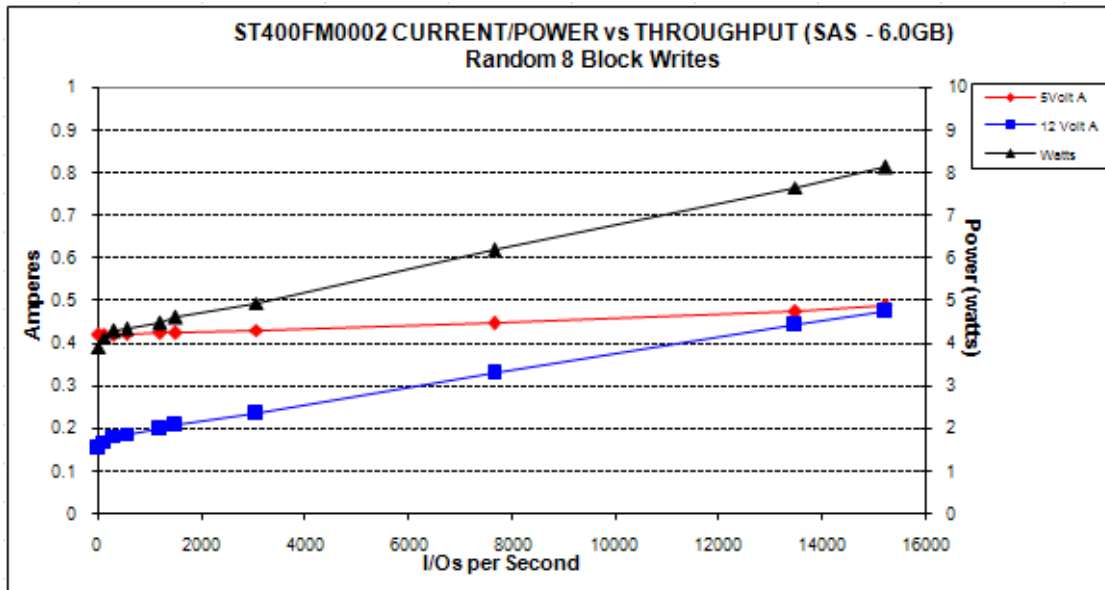
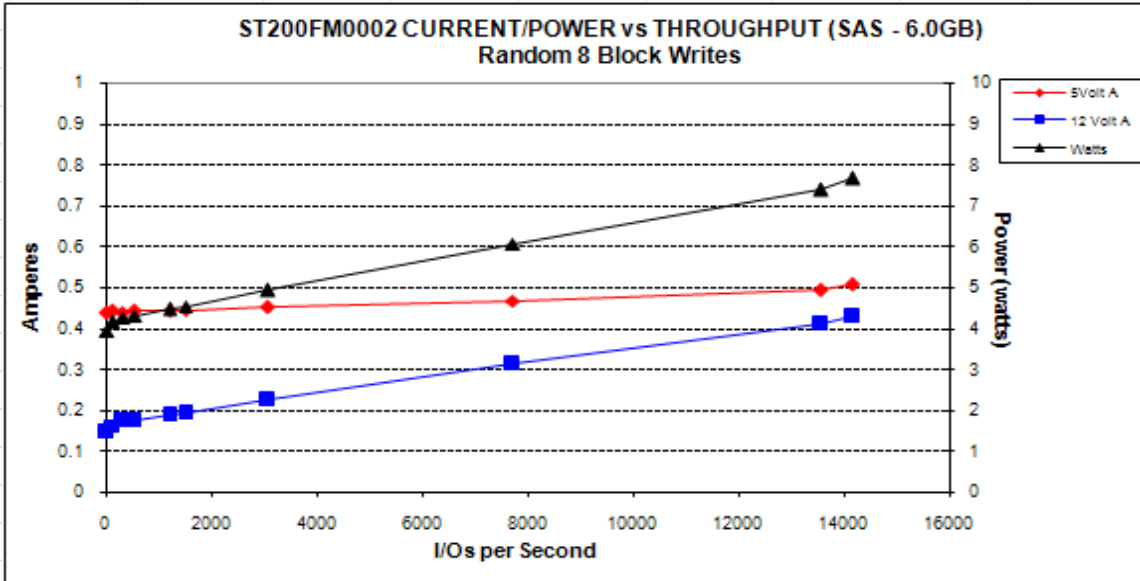

Figure 6. 400GB (at 6Gb) DC current and power vs. input/output operations per second
Figure 7. 200GB (at 6Gb) DC current and power vs. input/output operations per second
- [3] See +12V current profile in Figure 6 (for 400GB models) and Figure 7 (for 200GB models).
To obtain operating power for typical random write operations, refer to the following I/O rate curve (see Figure 6). Locate the typical I/O rate for a drive in your system on the horizontal axis and read the corresponding +5 volt current, +12 volt current, and total watts on the vertical axis. To calculate BTUs per hour, multiply watts by 3.4123.
To obtain operating power for typical random write operations, refer to the following I/O rate curve (see Figure 7). Locate the typical I/O rate for a drive in your system on the horizontal axis and read the corresponding +5 volt current, +12 volt current, and total watts on the vertical axis. To calculate BTUs per hour, multiply watts by 3.4123.